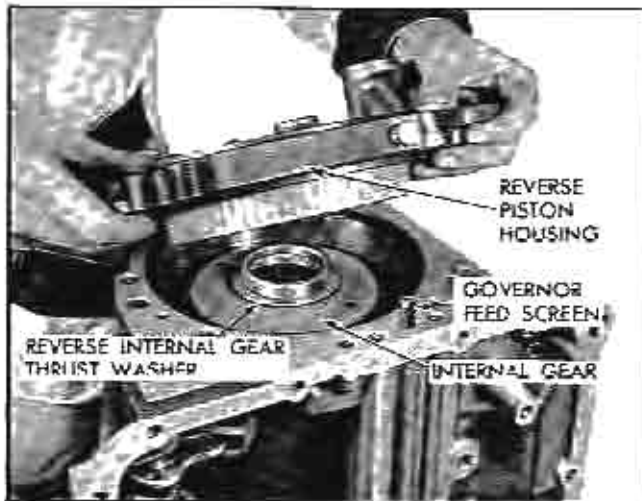

Fig. 64 Lifting Reverse Piston Housing from Case
2. Remove reverse clutch piston housing attaching screw and lift housing from case (Fig. 64).
5. Remove reverse internal gear thrust washer and internal gear from case (Fig. 64).